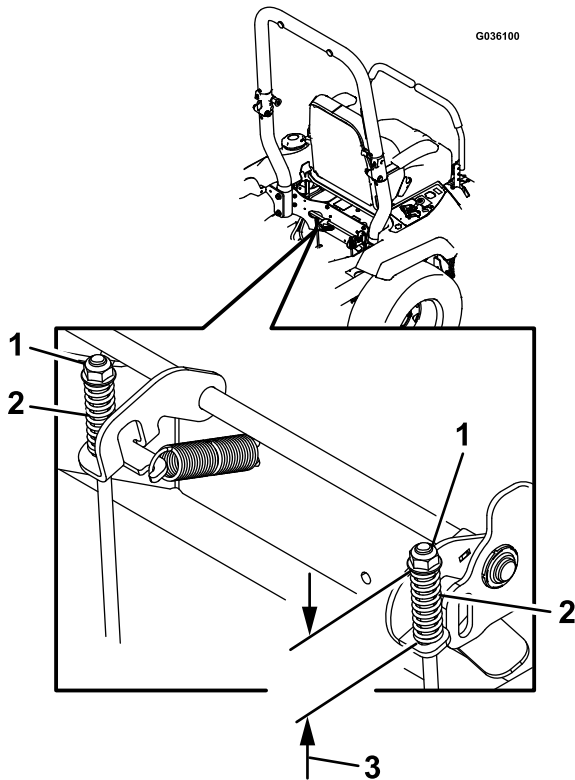

Figure 61
8. Check both spring lengths as shown in Figure 61. If an adjustment is necessary, turn the top nut clockwise to shorten the spring and counterclockwise to lengthen it.